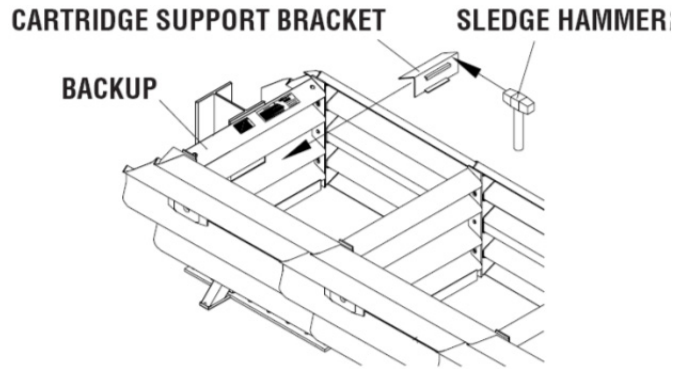

Figure 73
- c. Then, using a sledge hammer and Quad-Beam™ Panel on Backup as an anvil, straighten Cartridge Support Bracket back into 90° shape (see Figure 73).